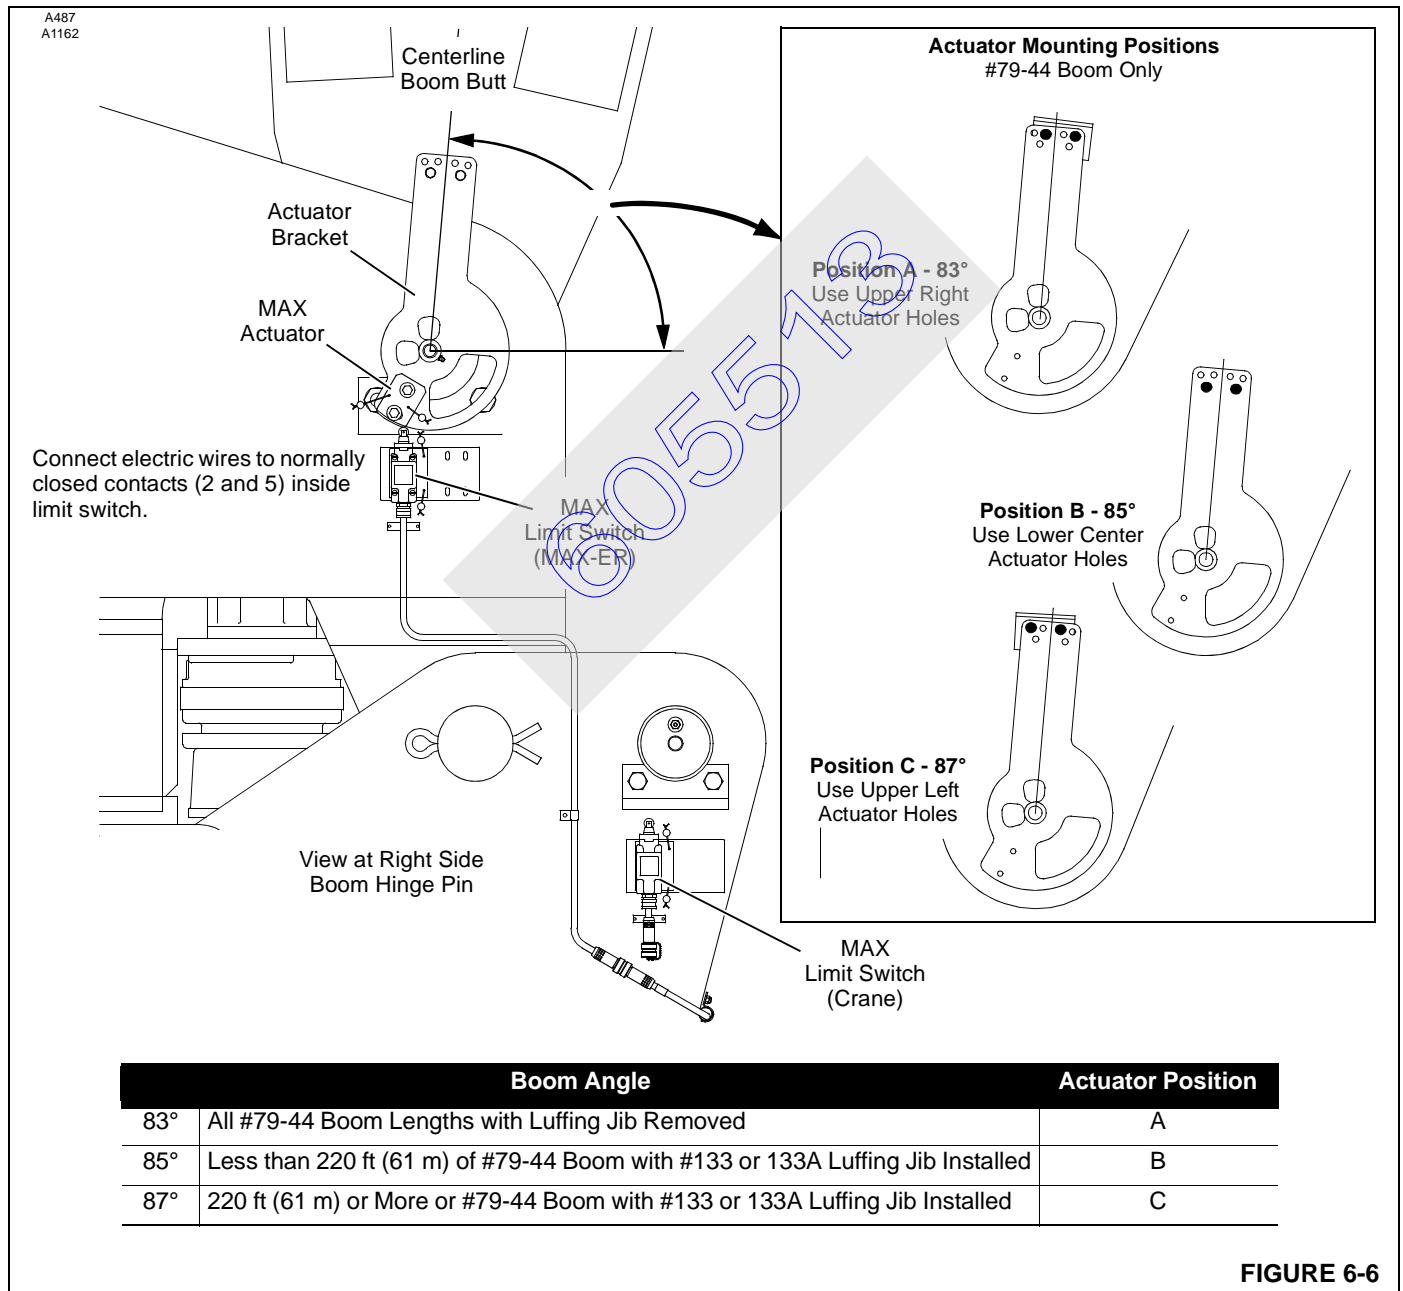

FIGURE 6-6
This crane has limit switches which automatically stop the boom hoist and apply its brake when the boom is raised or lowered to a preset angle (see Tables in Figure 6-5 or Figure 6-6).
2. For #79-44 boom only, make sure actuator bracket is securely fastened in proper position on boom butt (Figure 6-6, Position A, B, or C).